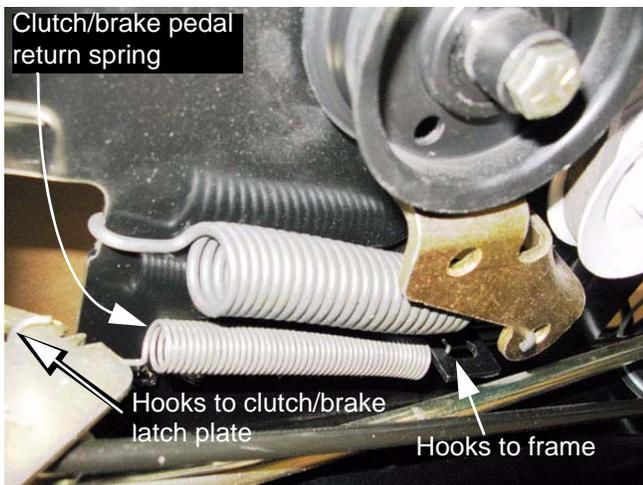

Figure 5.24
6. Unhook the clutch/brake pedal return spring. See Figure 5.24.